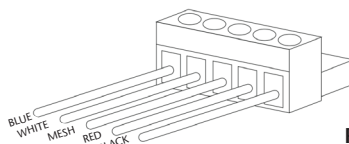

Fig. 5
2. Connect each wire of the CAN BUS cable to the 5 poles male plug connector by using the following schematic in the figure 5.
3. Hold the wire to the provided housing by screwing the retaining plate (2) and closing the housing.
2. Conectar los conductores individuales del cable CAN BUS al conector macho enchufable de 5 polos proporcionado de acuerdo al siguiente esquema (fig. 5).
3. Sujetar el cable a la carcasa proporcionada atornillando la pletina de retención (2) y cierre la carcasa.